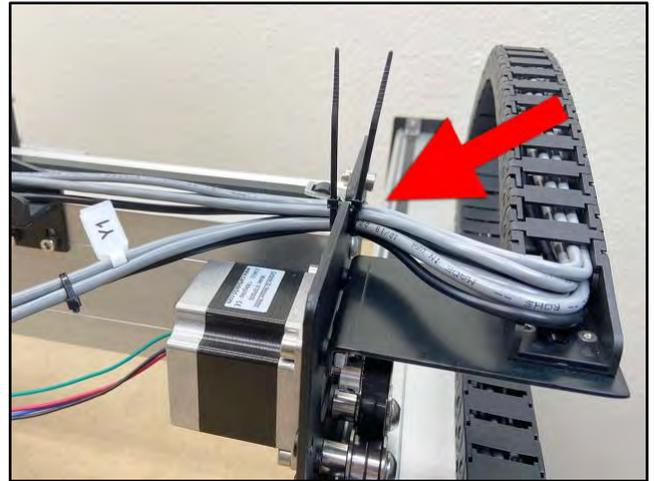
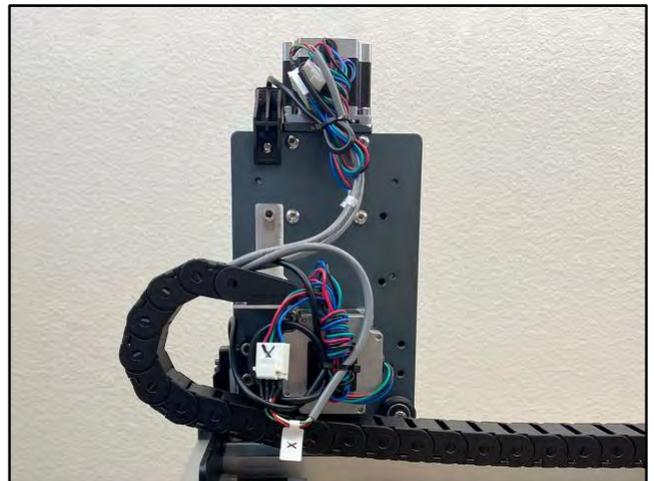

Figure 37
Figure 38
1. Secure the cables crossing the Y1-carriage plate. See *Fig. 37*.
- b. Use two (2) cable ties, one on each side of the cutout, to secure the cables in place.
2. Secure the cables at the rear of the HDZ. See *Fig. 38*.